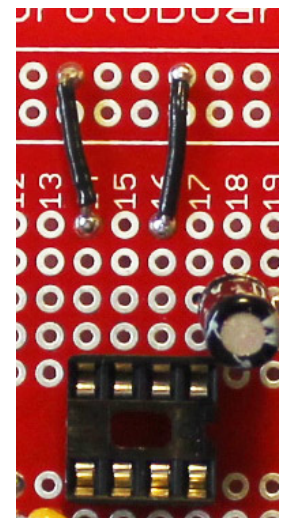

Figure 15
15. Prepare a short black solid wire (22 AWG) and solder one end to hole j14 and the other end to a nearby top negative power bus hole (see Figure 15).